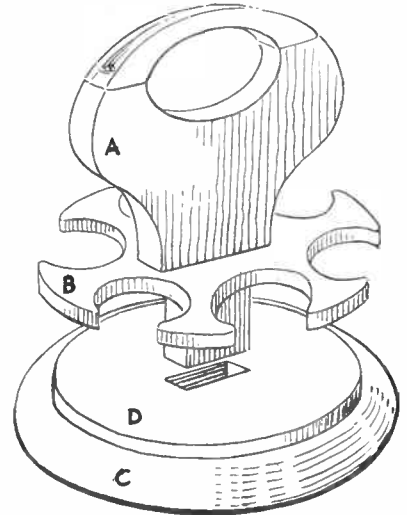

Fig. 1
All the parts are glued together and the exact method is shown in the illustration Fig. 1. The narrow portion of piece (A) is put through the mortise in piece (B). Pieces (C) and (D) are now glued together and piece (A) is glued into these.
Ltd., Dereham, Norfolk, price 6d., postage extra. Screw in place as shown in Fig. 1. Try to persuade the lady of the house to knit a smart cosy as suggested previously. (M.p.)